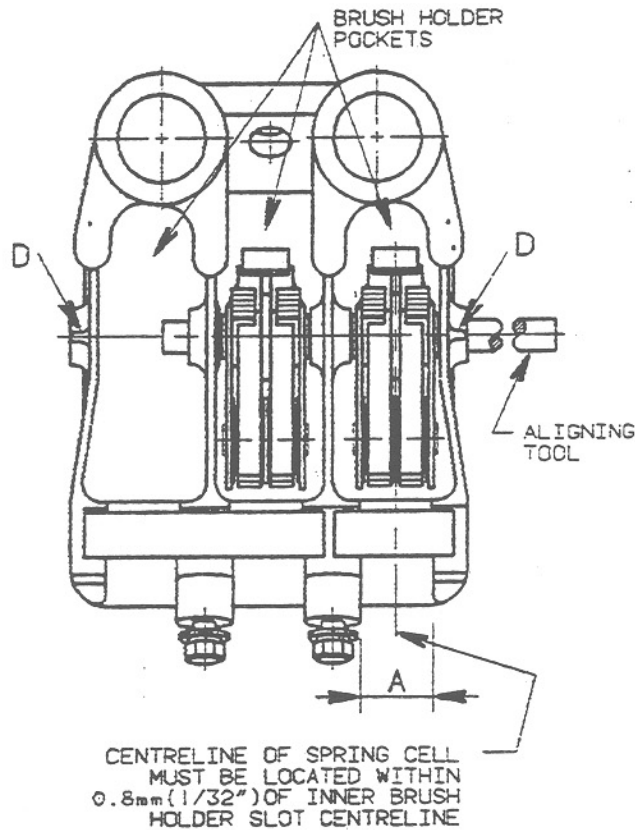

Fig. 8 - Installing Spring Cell in Brush Holder
1. Insert the spindle in the spindle hole with the spindle pushed up against the top of the hole. Check the distance from the bottom of the spindle to the inside surface of the bottom web of the brush holder casting, as shown in Fig. 8. If this dimension is greater than 19.69 mm (.775") or if the hole is more than 51 mm (2.00") oversize, the hole must be plugged and relocated.
3. Place cell assembly in brush holder spring pocket with fingers centered within 0.8 mm (1/32") of slot "A", as shown in Fig. 8.
4. Insert aligning tool through spindle hole and spring cell, Fig. 8. Check alignment of spring cell with finger slot "A" and, if cell is out of line, remove aligning tool and reassemble.
7. Drill two 3.2 mm (1/8") diameter holes at area "D" of Fig. 8. Insert groove pins at each hole at area "D". Peen casting lightly into each hole to lock pins.